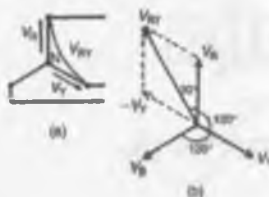

Figure 20.4
- (vi) The line voltage, V_{RY} , shown in Fig. 20.4(a) is given by $V_{RY} = V_R - V_Y$ (V_Y is negative since it is in the opposite direction to V_{RY}). In the phasor diagram of Fig. 20.4(b),